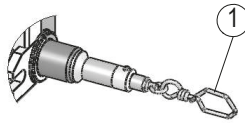
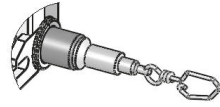

Fig. 5: Wire hook closed
Fig. 6: Wire hook opened
Mounting the wire hook (Fig. 5, Fig. 6):
1. Mount the wire hook ① or wire, respectively to the intended fastening position.
2. Mount the wire hook ① in the closed (see Fig. 5) or opened (see Fig. 6) condition.
3. After mounting with the wire hook opened closed the wire hook again (see Fig. 5).